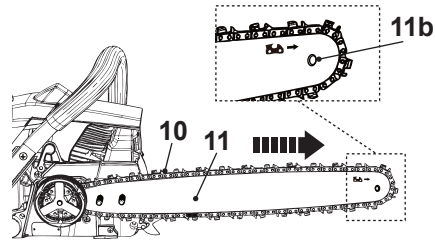

Fig. 5
6. The saw chain movement is as indicated by the arrow (Fig. 5). Make sure the saw chain (10) is properly placed over the sprocket wheel (11b) of the guide bar (11).
7. Pull the guide bar (11) carefully towards the right to tighten the saw chain (10) (Fig. 5).